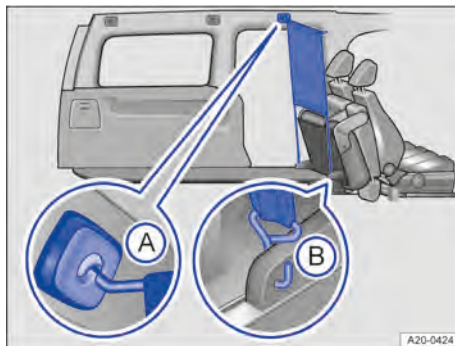

Fig. 151 Behind the folded-down second row of seats: Fitted net partition.
2. Hook the net partition into the *front left* → Fig. 151 (A) holder in the roof. Ensure that the transverse rod is pulled up over the upper position so that it latches securely in the slots.
4. Hook the net partition into the anchor points → Fig. 151 (B).